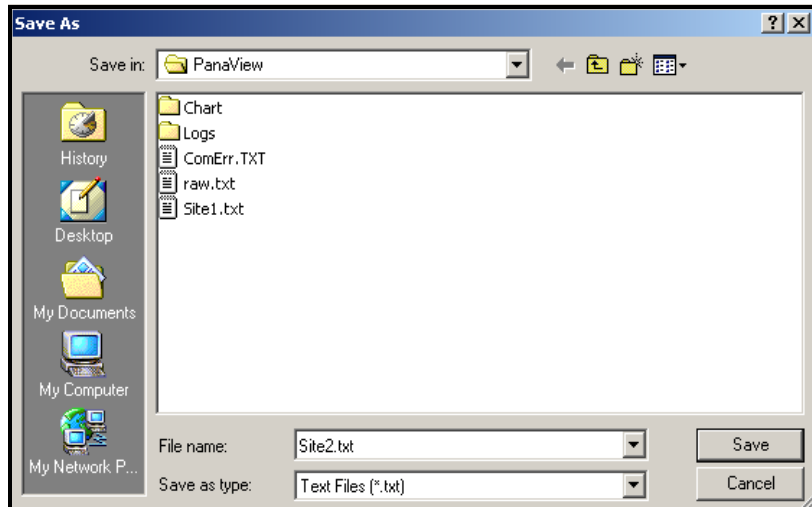

Figure 29: Save As Window
To *save* the raw signal, click *Save*. A window opens similar to Figure 29 below. Enter the desired name, and click *Save* to save the signal as a text file.
2. Click *Save Site to PC*. A window opens similar to Figure 29 on page 105.